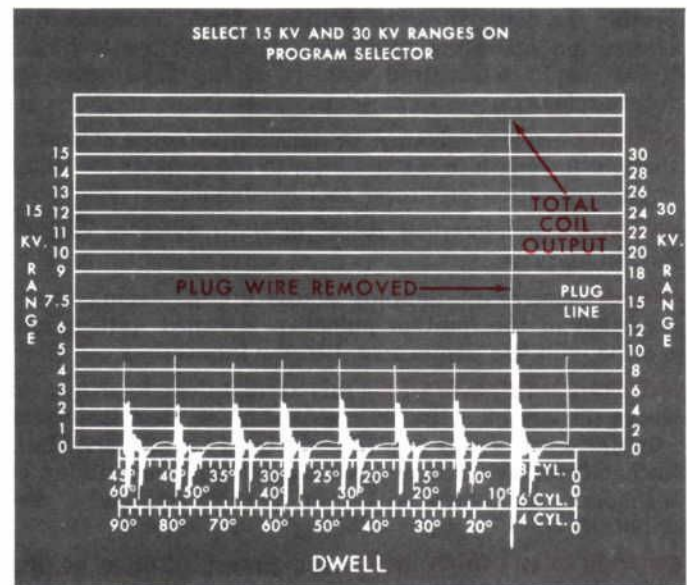

Figure 29—Coil Output
If the firing voltage is too low (short spike) and the spark line is longer than normal, it means the plug may be shorted, fouled or gapped too close. Another possibility is a cracked distributor cap with one terminal grounded. To check this, switch to the 30-KV scale for a second and remove the plug wire. The firing spike should rise to coil output (Figure 29). If it doesn't rise, the distributor cap is grounding out the cylinder.
3. Read the *total coil output* on the 30-KV scale (Figure 29).